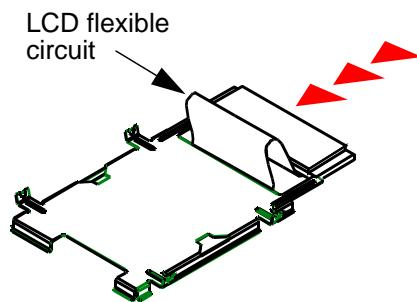

Figure 1-11. Slide In The Lightpipe
- Fold the LCD flexible circuit (Figure 1-11). Make sure the LCD flexible circuit is outside.
- Slide in the lightpipe (Figure 1-11).